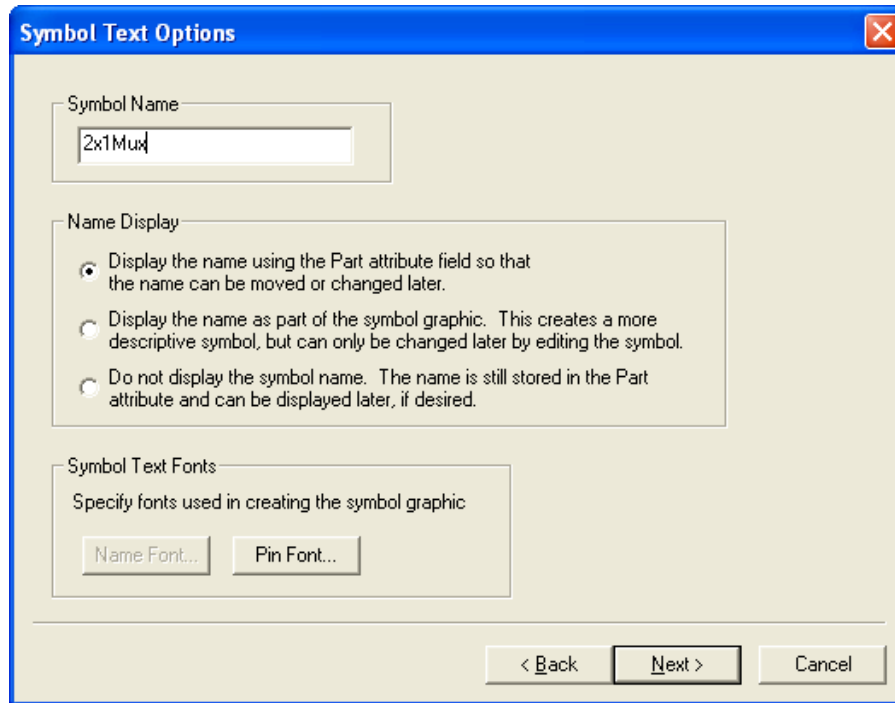

Figure 8
- n. Enter “**2x1Mux**” in the “Symbol Name” field, as in Figure 8.